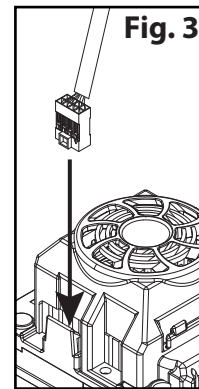

Fig. 3
3. Plug the 8-pin connector from the high-voltage power amplifier into the accessory port on the ESC; **note orientation of the connector** (Fig. 3). The amplifier and lights will turn on when the ESC is powered on.